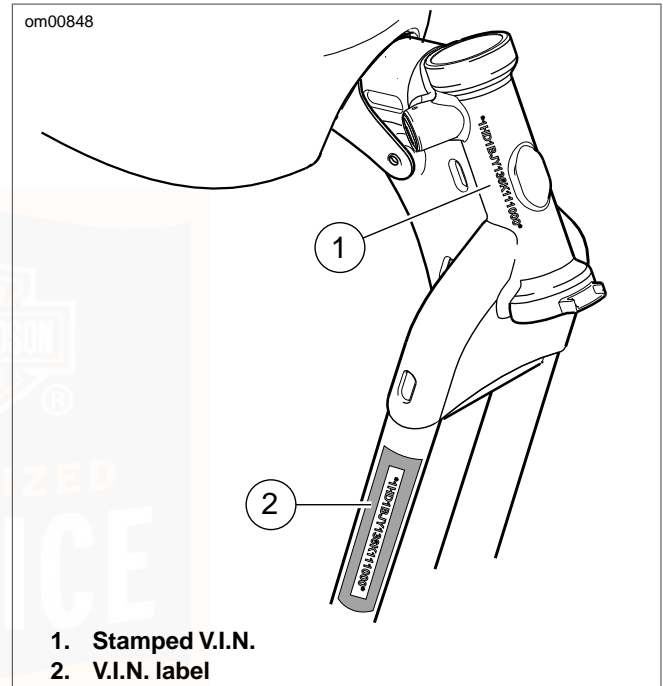

Figure 1. V.I.N. Locations: Sportster Models
See Figure 1. The full 17-digit V.I.N. is stamped on the steering head and printed on a label located on the right front frame down tube.
1. Unscrew nut and remove negative battery cable from crankcase stud (see Figure 1). Keep end of negative battery cable away from all metal parts.